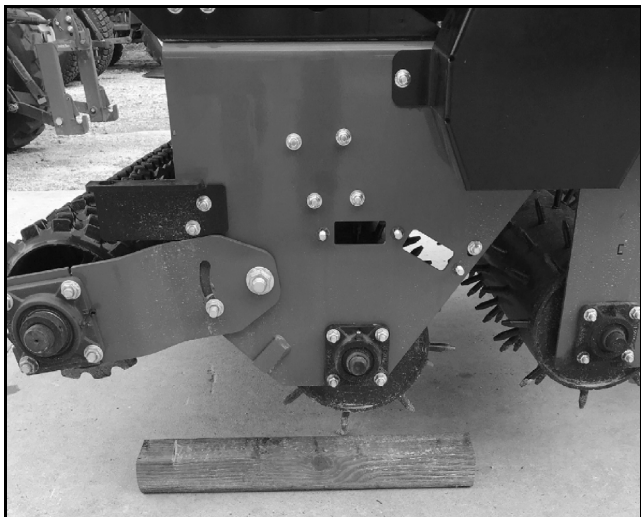

Figure 13. Precision Super Seeder above Wooden Blocks
5. Raise the seeder slightly off the ground and position over wooden blocks by moving tractor. Do not allow wooden block to contact the front roller (see Figure 13.)
5. Raise seeder slightly off the ground and position seeder over wooden blocks by moving tractor. Do not allow wooden block to contact the front disc gang (see Figure 13.)